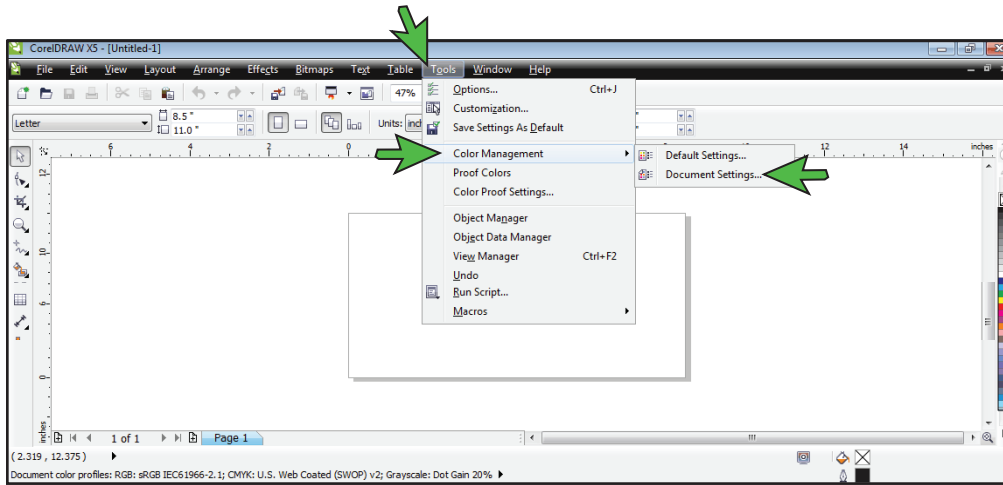

FIGURE 5
5.) In the Menu Bar, click Tools > Color Management > Document Settings: (see FIGURE 5)